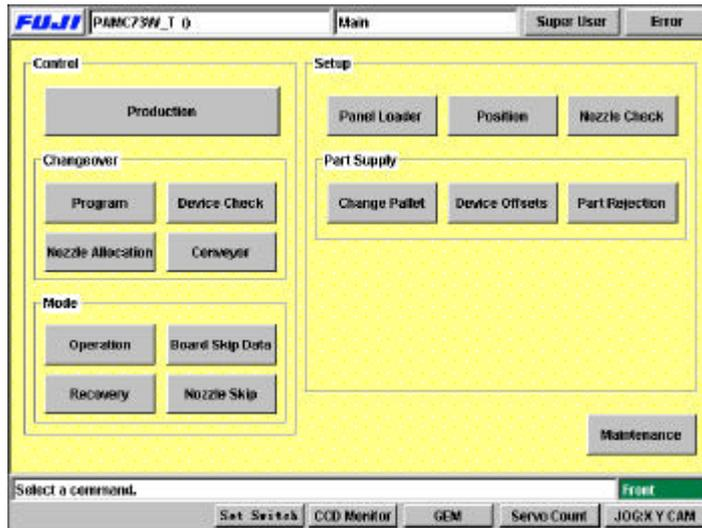
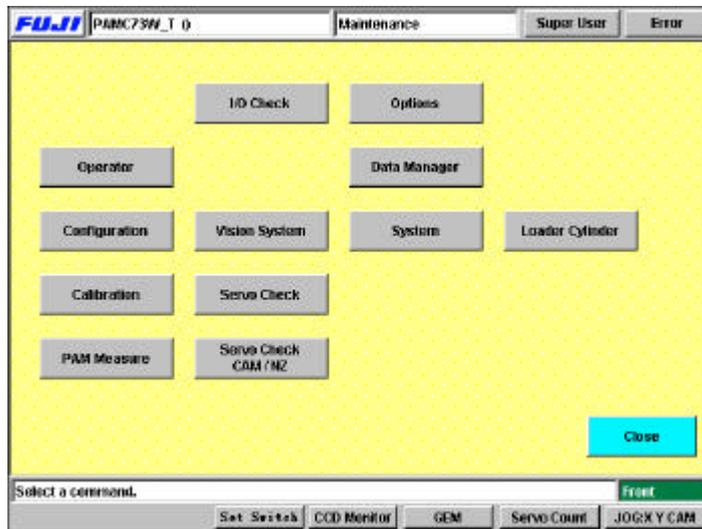

Figure 2
Figure 3
2. Release the emergency stop button and press [Ready ON] to reset the M/C emergency stop condition. Enter the appropriate password and the display will change to Fig.2. Check that the cam angle is at 0 degrees and carry out the following commands:
3. Next, press [Maintenance] (Fig.2)→ [I/O check] (Fig.3) to enter the I/O.
1. Return to Fig.3 and press [**Servo Check**] to enter the servo check command.